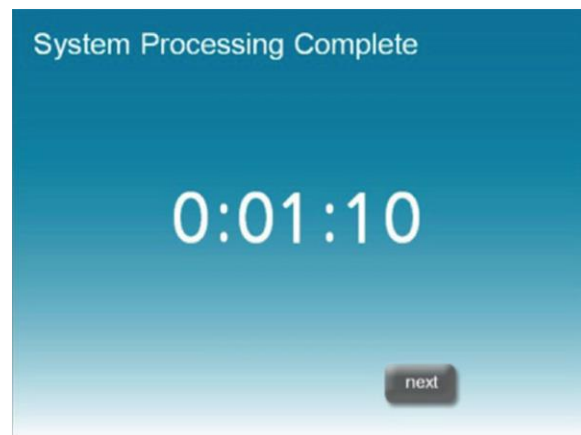

Figure 36: The 'System Processing Complete' screen.
18. When the run is complete, the blue 'System Processing Complete' screen will appear and the timer will count up (**Figure 36**). Press **next**.